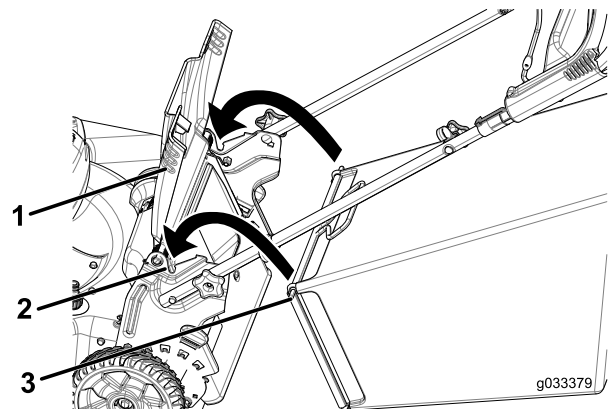

Figure 23
1. Raise and hold up the rear door (Figure 23).
2. Install the grass bag, ensuring that the pins on the bag rest in the notches in the handle brackets (Figure 23).